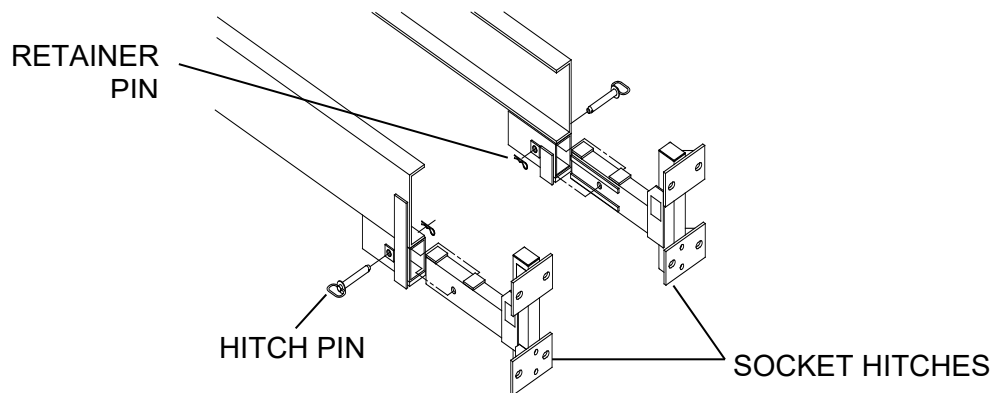

Figure 32
- E. Remove the Socket Hitches from the Underride Socket Receivers by removing 1 x 6 1/4" Hitch Pins and Retainer Pins*(Figure 32).